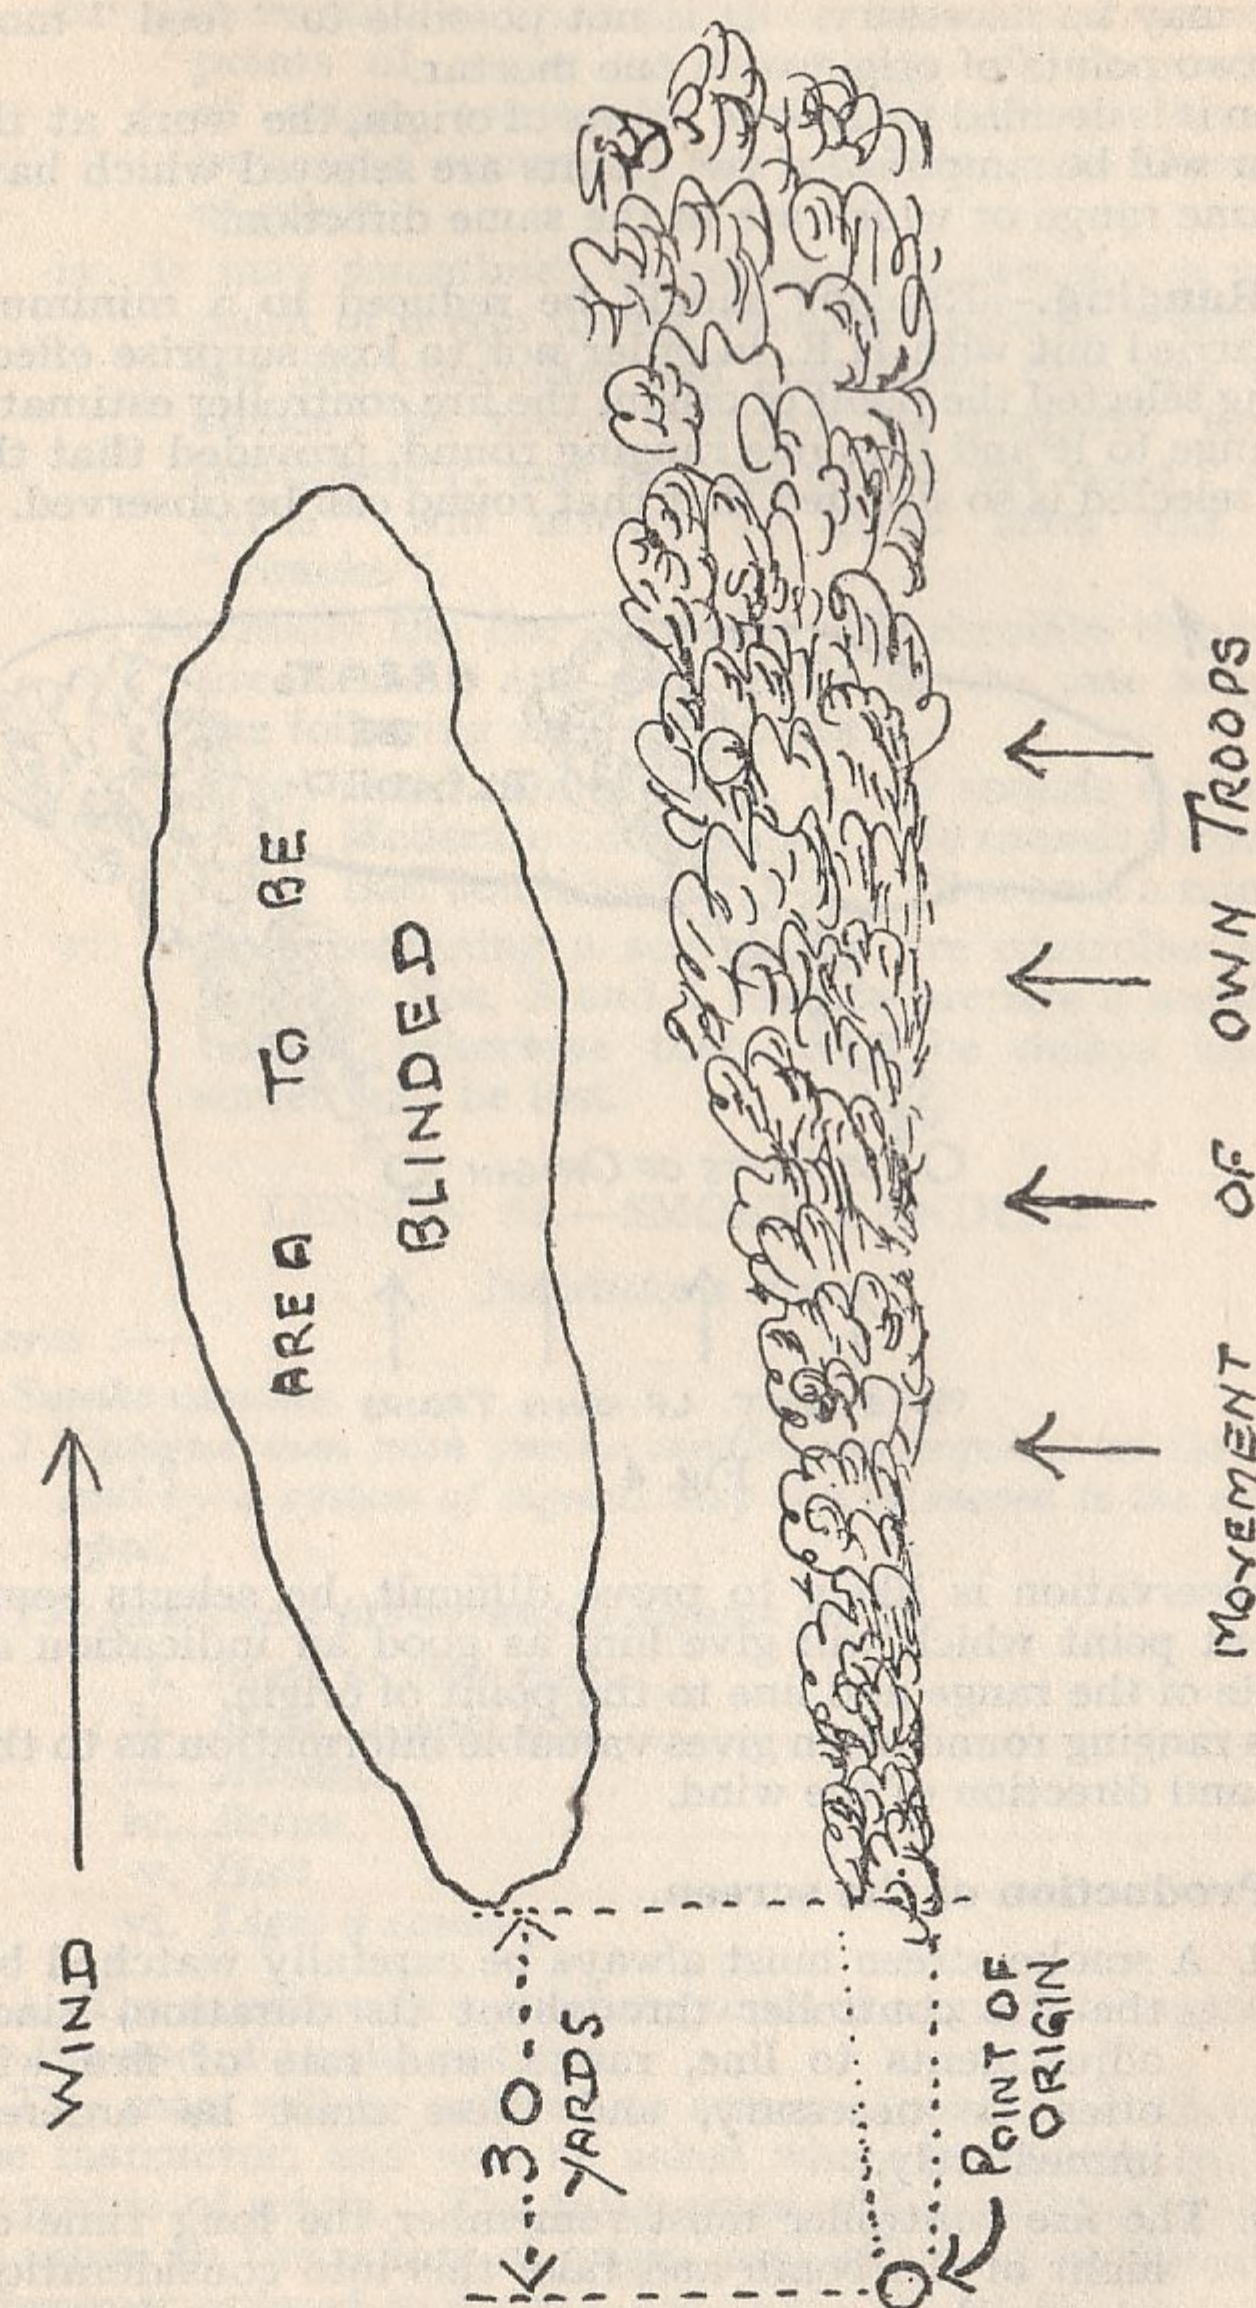

Fig. 3
6. **Selection of points of origin**.—When ordered to produce a smoke screen, the fire controller must consider the direction of the wind in relation to the area to be screened and the direction from which the screening is required. (Figs. 3 and 4.)